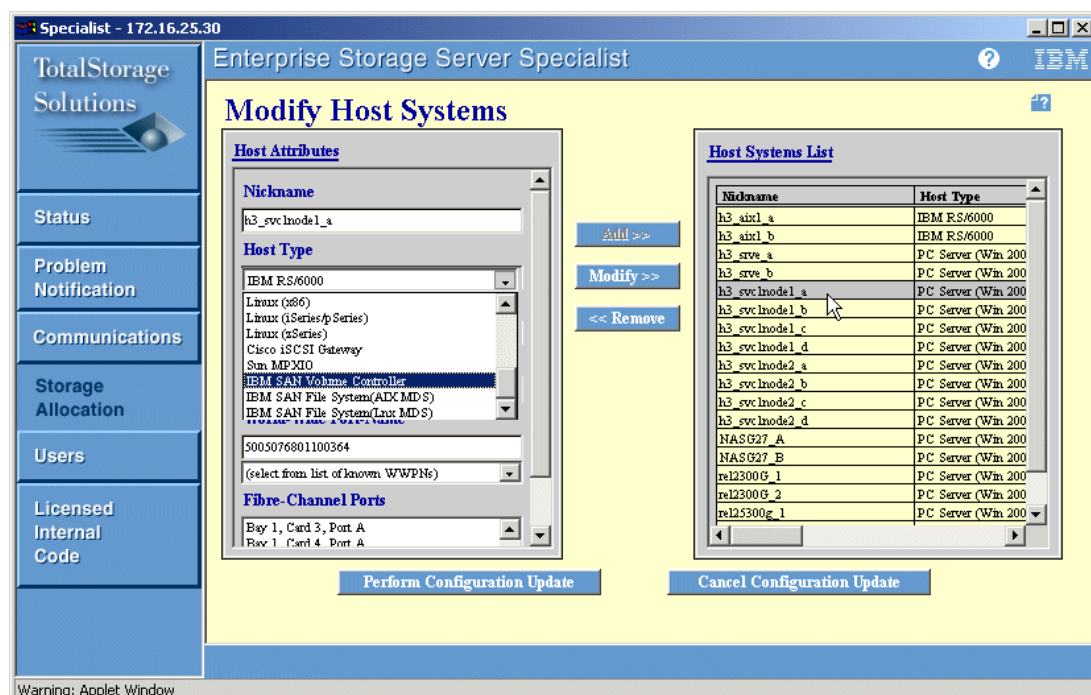

Figure 3-17 ESS Modify Host System window
7. Go to the Modify Host Systems window (Figure 3-17). Follow these steps: